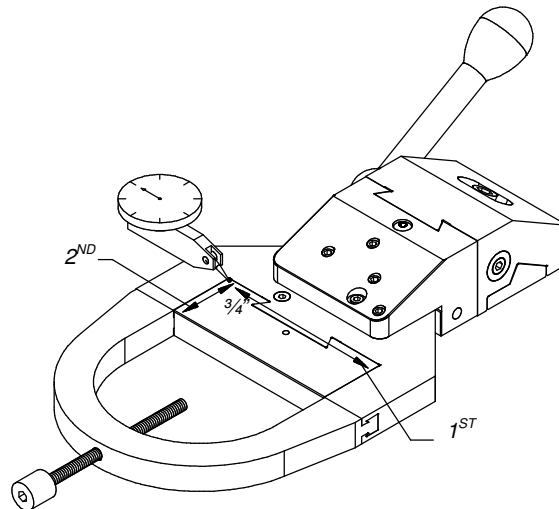

Figure 7
(A). Attach the RH01/TD01 to the MCD01 or PS01 on the truing stage. (B). Secure the TD01 by pushing down on the torque handle until it clicks. **DO NOT OVER TIGHTEN.** (C). Position the dial indicator on the insert at one side as shown in Fig 7. (D). Zero the indicator. (E). Move the indicator to the other corner of the insert. (F). Turn the #1 jackscrew until the indicator returns to zero. The first-axis is trued.